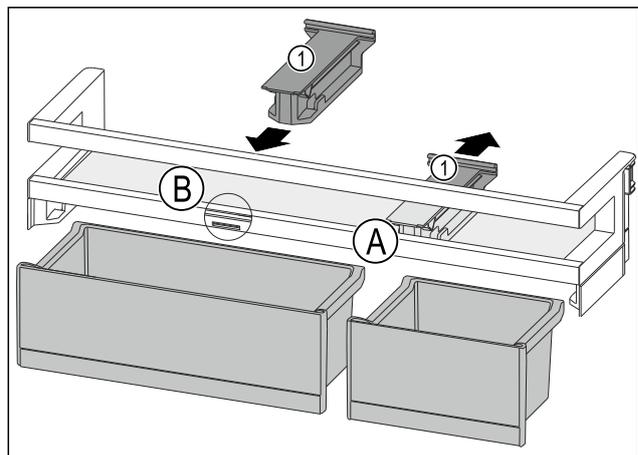

Fig. 91
- ▶ Take off the holding part Fig. 91 (1) in position Fig. 91 (A) backwards.
- ▶ Insert the holding part Fig. 91 (1) in position Fig. 91 (B).